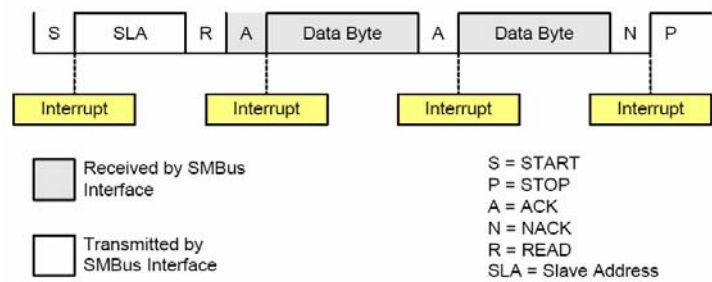
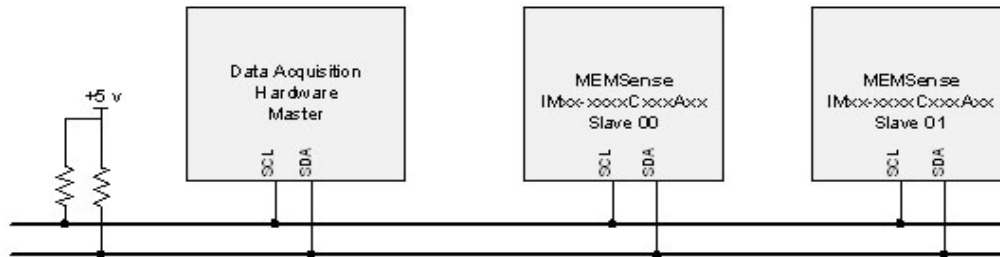

Figure 8 - Master Receiver Sequence
Figure 9 – I2C/SMBus connection diagram
The master device must parse out the initial message structure for the message size (X), read X bytes from the slave, NACK the final byte then send a stop. A master-receiver sequence is shown in Figure 8 (above). Slave device SCL and SDA ports are open drain. Pull-up resistors of 10k for 3.3 V and 15k for 5V are recommended on the SCL and SDA signals. Both lines are 5 V tolerant with a V_{IH} minimum of 2.1 V. Care must be taken to minimize line capacitance. For additional information on the nIMU I²C/SMBus connection see the SiLabs C8051F06x Data Sheet. A typical I²C/SMBus connection is shown in Figure 9 (below).